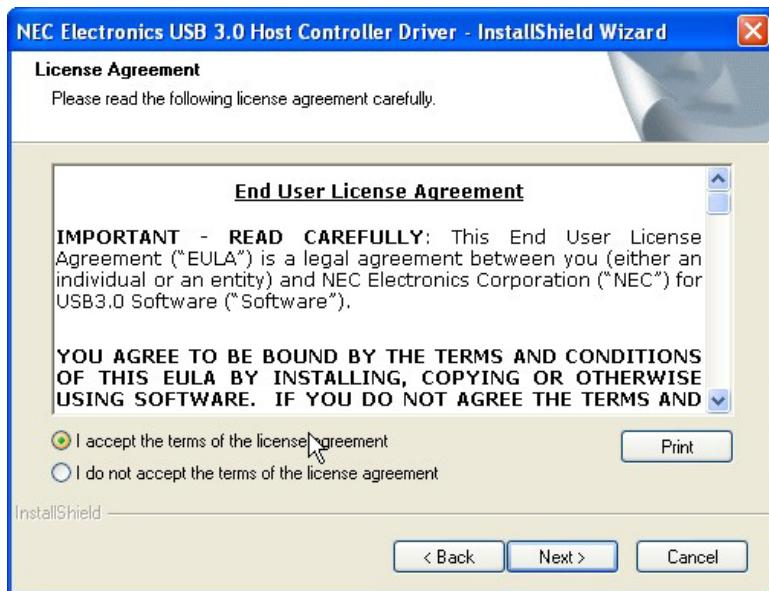

Figure 6-29: USB 3.0 Driver License Agreement
Step 6: The **License Agreement** shown in **Figure 6-29** appears.